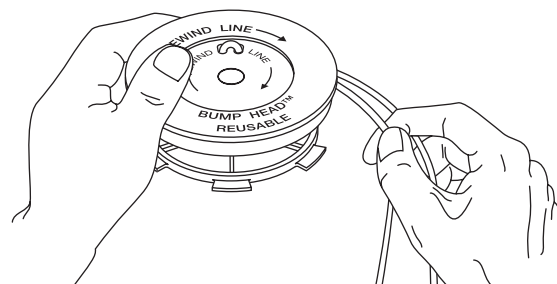

Fig. 18
7. Wind the lines in tight even layers, onto the reel (Fig. 18). Wind the line in the direction indicated on the inner reel. Place your index finger between the two lines to stop the lines from overlapping. Do not overlap the ends of the line. Proceed to step 11.